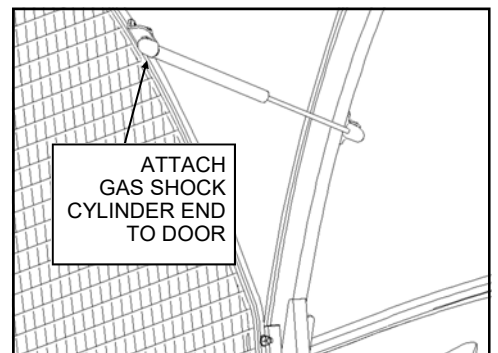

Figure 8.4: Door gas shock
- 8.4 Open the door to slightly less than 90°. Install the Gas Shock onto the Ball Studs of the frame and door (**Figure 8.4**). The cylinder end must be attached to the door as shown to ensure seals stay lubricated.